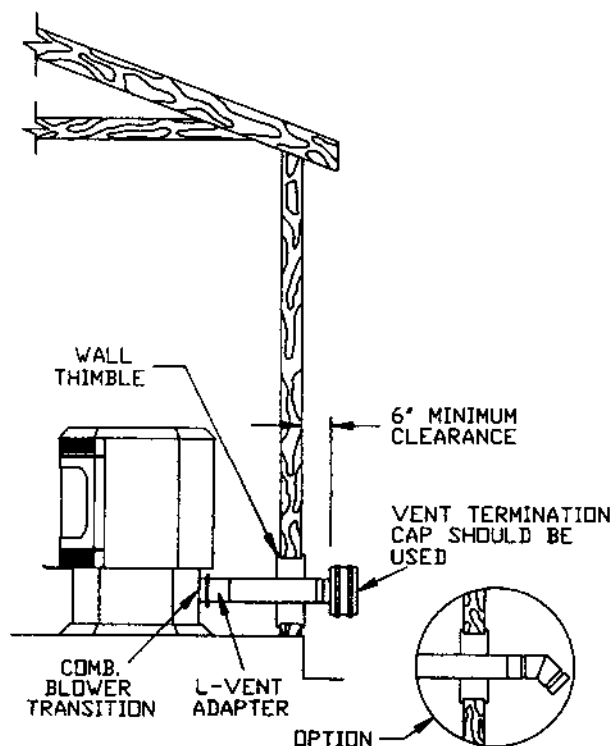

Figure 3
A. HORIZONTALLY THROUGH WALL (see Figure 3)